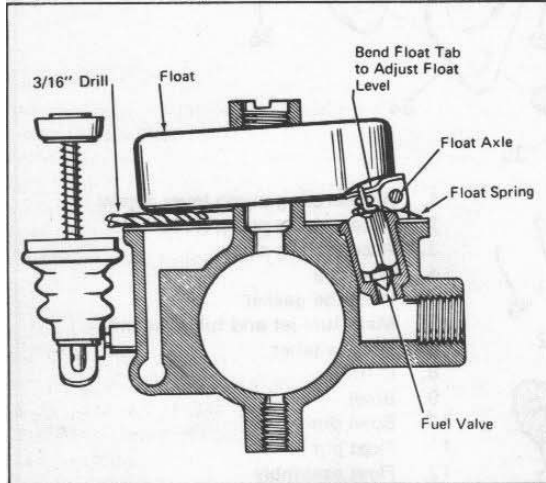

Figure 3-72
9. Insert fuel valve assembly (14) in fuel valve seat. Assemble float spring (13) and float (12) and install float pin (11). Be sure that fuel valve clip is attached to the float tab. If necessary, bend clip to provide minimum clearance with tab (approximately .010 in.).
10. With the carburetor inverted (inlet needle seated), bottom surface of float should be 3/16 in. from gasket surface at point opposite hinge. A 3/16 in. drill can be used as a gauge as shown in Figure 3-72. If adjustment is required, use long nosed pliers to bend the tab that contacts the fuel valve. Be careful to avoid damage to the fuel valve or seat.
1. Carefully guide cup of accelerating pump (3) into pump well. Seat accelerating pump boot around top of accelerating pump boss.
2. Assemble washer (7) on main jet and discharge tube (6) and assemble O-ring (8) in groove near end of discharge tube.
3. Hold carburetor inverted (with float up) and rotate the long end of the spring upward so that it is against the float. Carefully position the fuel bowl on the throttle body releasing the float spring so that the long end of the spring presses against the side of the bowl (refer to Figure 3-72). Be sure that the accelerating jet fits properly in the hole in the throttle body.
4. Assemble main jet and tube (6) through hole in bottom of bowl and into throttle body boss.
5. Assemble gasket (5) on idle tube (4) and insert tube in throttle body. Carefully guide tube through bore and into discharge tube on opposite side of venturi. Tighten idle tube and main jet.